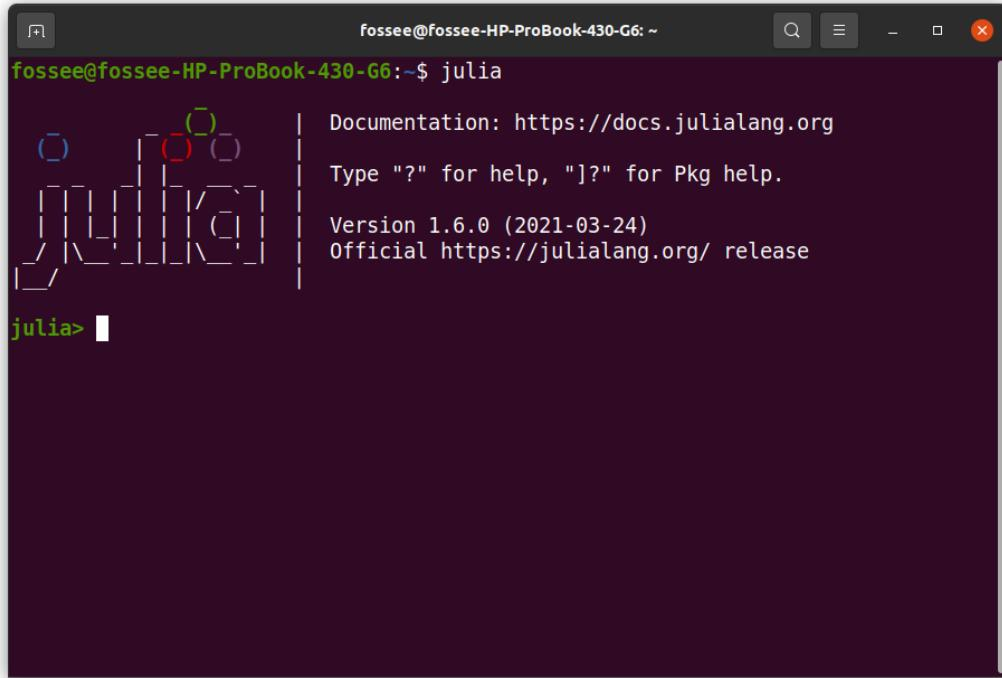

Figure 3.33: Linux terminal to launch Julia REPL
1. Open a Terminal by pressing Ctrl+Alt+T keys together. Type julia and press Enter. It should launch Julia in an interactive session (also known as a read-eval-print loop or "REPL"), as shown in Fig. 3.33. When run in interactive mode, Julia displays a banner and prompts the user for input. By default, Julia REPL appears in Julian prompt. It is the default mode of operation; each new line initially starts with julia>, as shown in Fig. 3.33. It is here that you can enter Julia expressions. Hitting return or Enter after a complete expression has been entered will evaluate the entry and show the result of the last expression.
We can also check the status of this package to verify whether it has been installed successfully or not. For this, we need to get back to Julia REPL. Inside Pkg REPL, press backspace. The moment you press backspace, you get back to Julia REPL, as shown in Fig. 3.33. Now, type using Pkg and press Enter. This command will not generate any output. Now type Pkg.status() and press Enter. It should display the list of packages installed in Julia's environment. Please make sure that SerialPorts is present in the list of packages being shown. To exit the interactive session, type CTRL+D or type exit().